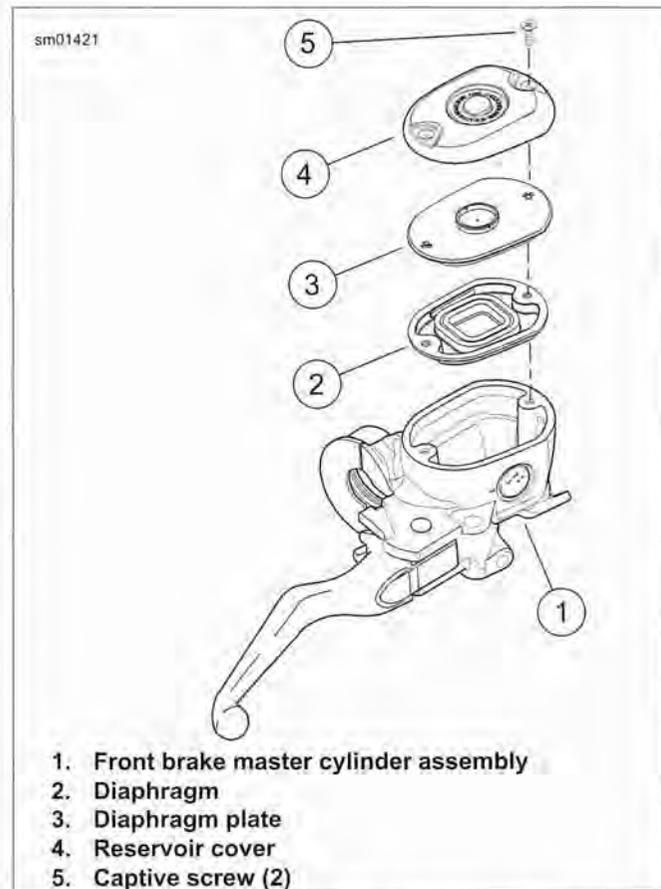

Figure 2-121. Front Brake Master Cylinder Cover Assembly (typical)
2. See Figure 2-121. Remove reservoir cover (4) with two captive screws (5), diaphragm plate (3) and diaphragm (2) from master cylinder reservoir (1).
12. See Figure 2-121. Replace diaphragm (2), diaphragm plate (3) and reservoir cover (4) with captive screws (5). Tighten to 9-17 **in-lbs** (1.0-2.0 Nm).